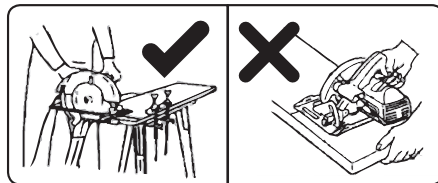

Fig. 7
1. Secure the material that is to be cut before cutting it using an appropriate clamping mechanism, e.g. using clamps to a workbench (see fig. 7). Never hold the material being cut in your hand or leaning against your knee.